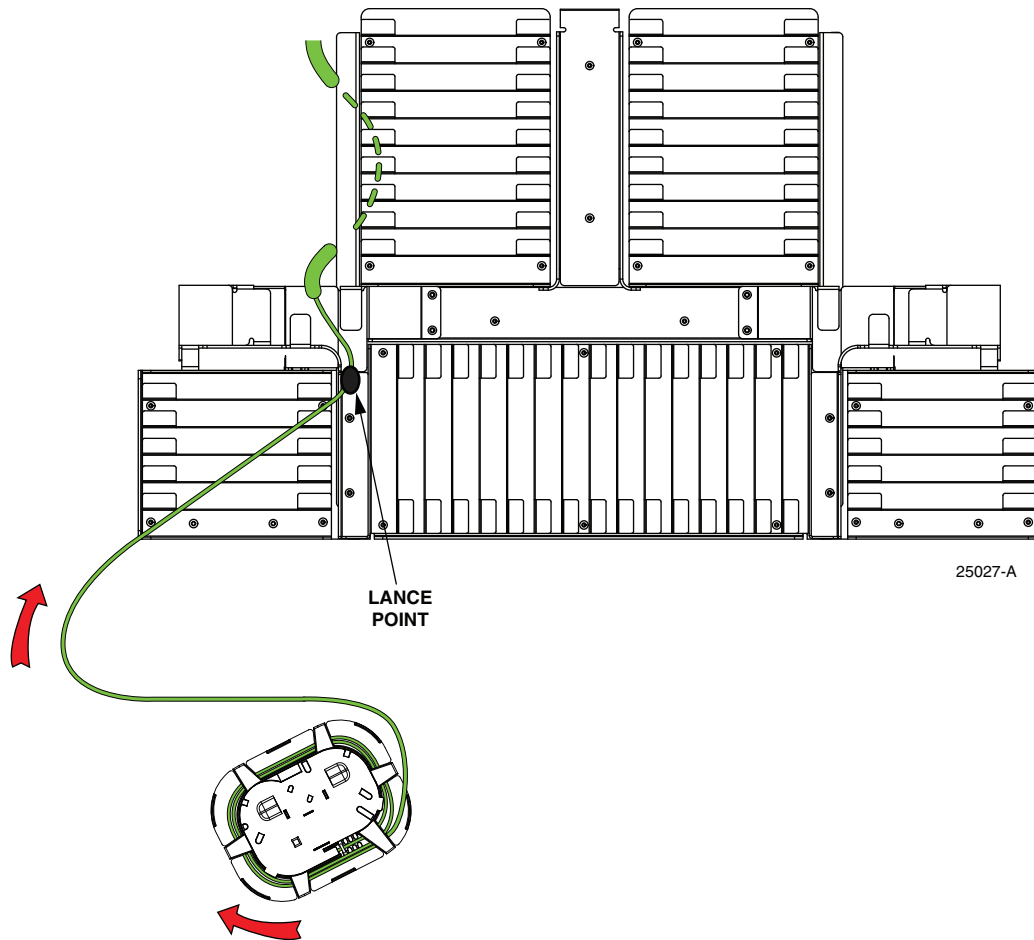

Figure 34. Winding Splice Tray Back Into Splice Chassis
8. Rotate the splice tray clockwise to take up the jacketed section of the cables while winding the tray back into the splice chassis, as shown in Figure 34.